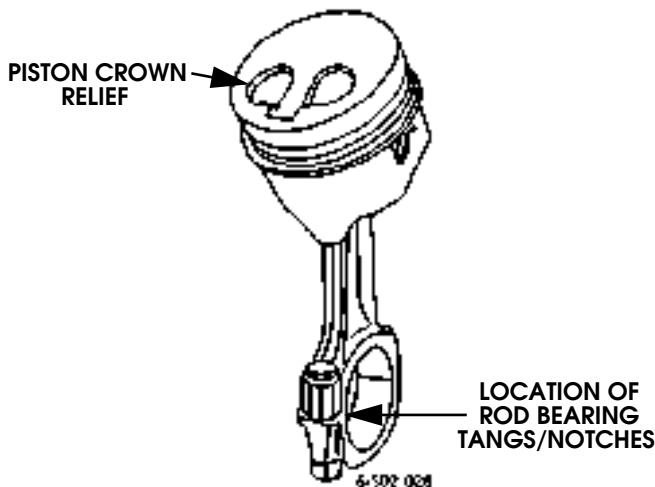
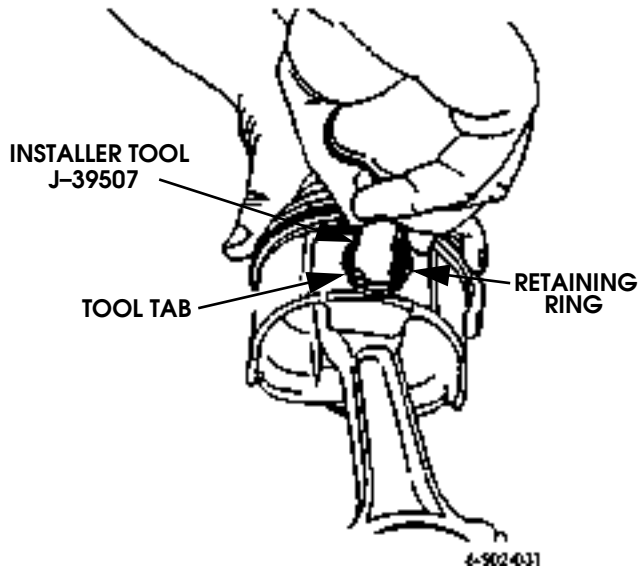

Figure 2-122: Piston and Connecting Rod Alignment
Figure 2-125: Seating Piston Pin Retainer Ring
4. Position piston on rod. Relief in piston crown and rod bearing tangs/notches must be aligned (Figure 2-122).
- e. Insert tool J-39507 into piston pin (Figure 2-122). Place tool tab on retaining ring. Seat ring by pressing downward and rotating tool in arc. Tool tab will press ring into place as it is rotated (Figure 2-125).